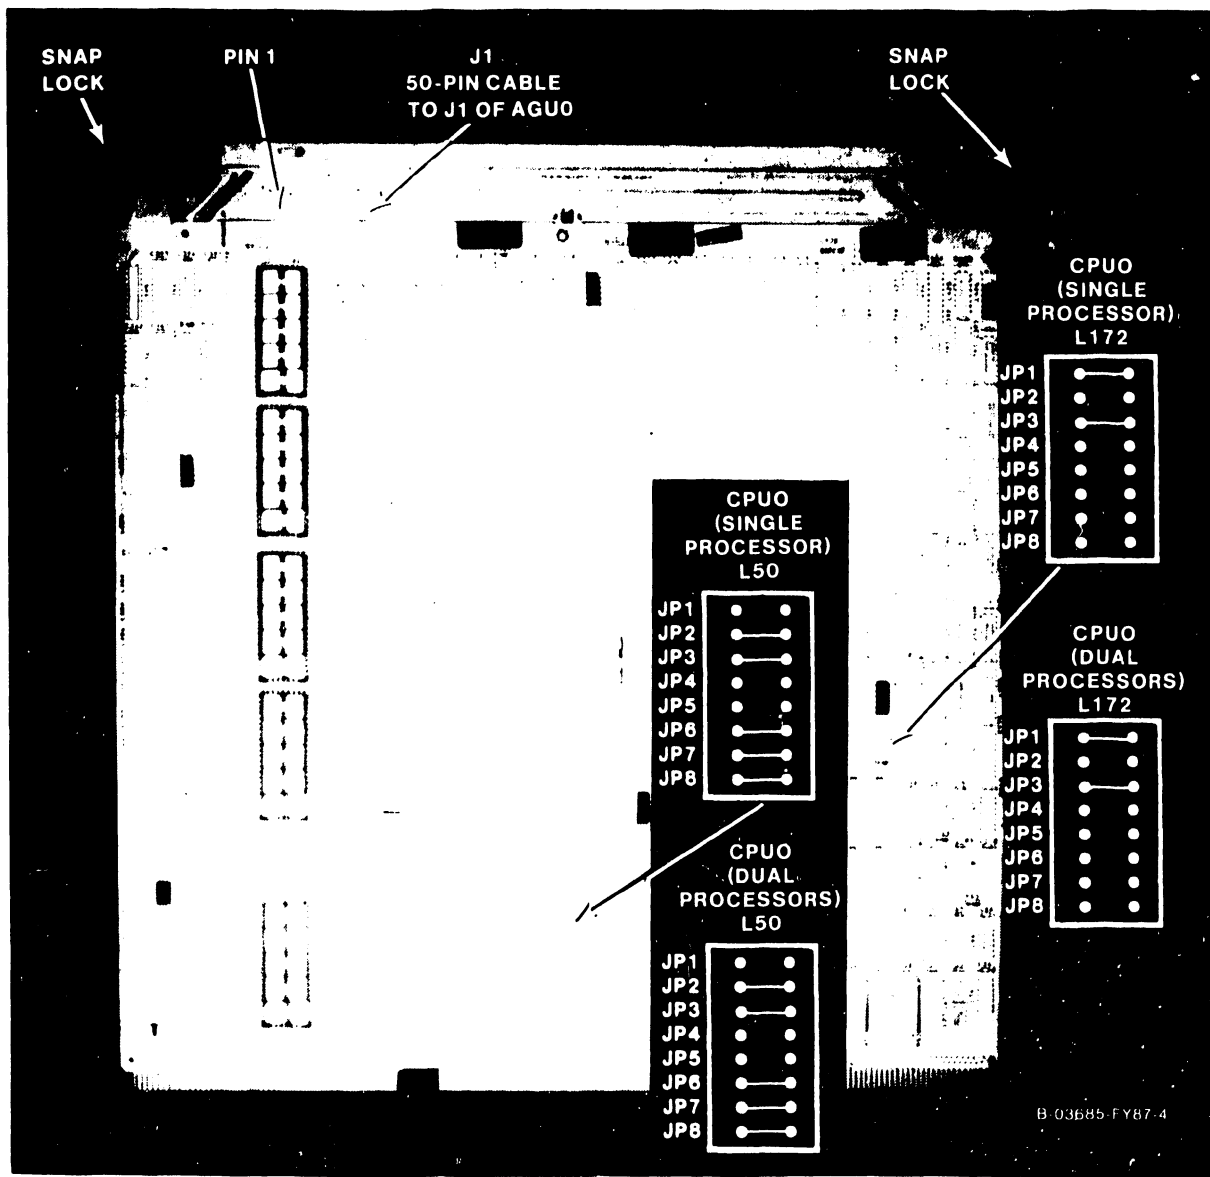

Figure 7-12. 210-9831/9931 Central Processing Unit (CPU0)
1. Before removing the Central Processing Unit (CPU0), figure 7-12, from backplane slot #2, disconnect the 50-pin cable from J1.
3. After checking the CPU Clock jumpers at L50 and SPB (Support Packet Bus) Target ID jumpers at L172 (figure 7-12), install the new CPU0.